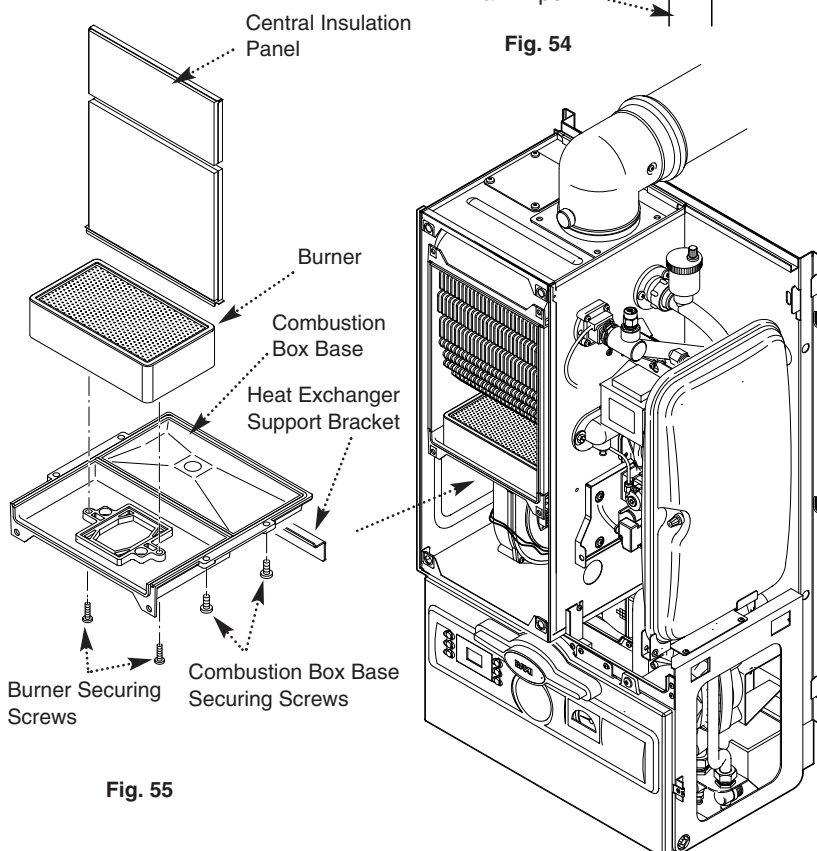

Fig. 55
- f) Remove the two screws securing the burner and remove the burner. Visually inspect the internal burner baffle for obstruction (Fig. 55).
NOTE: The burner skin is fragile - handle with care. Clean and if necessary replace the burner (Fig. 55).
g) Loosen the two screws retaining the heat exchanger support bracket and slide to the left to remove (Fig. 55).
i) Lower the central insulation panels and check condition (Fig. 55). Replace the insulation pads if necessary.